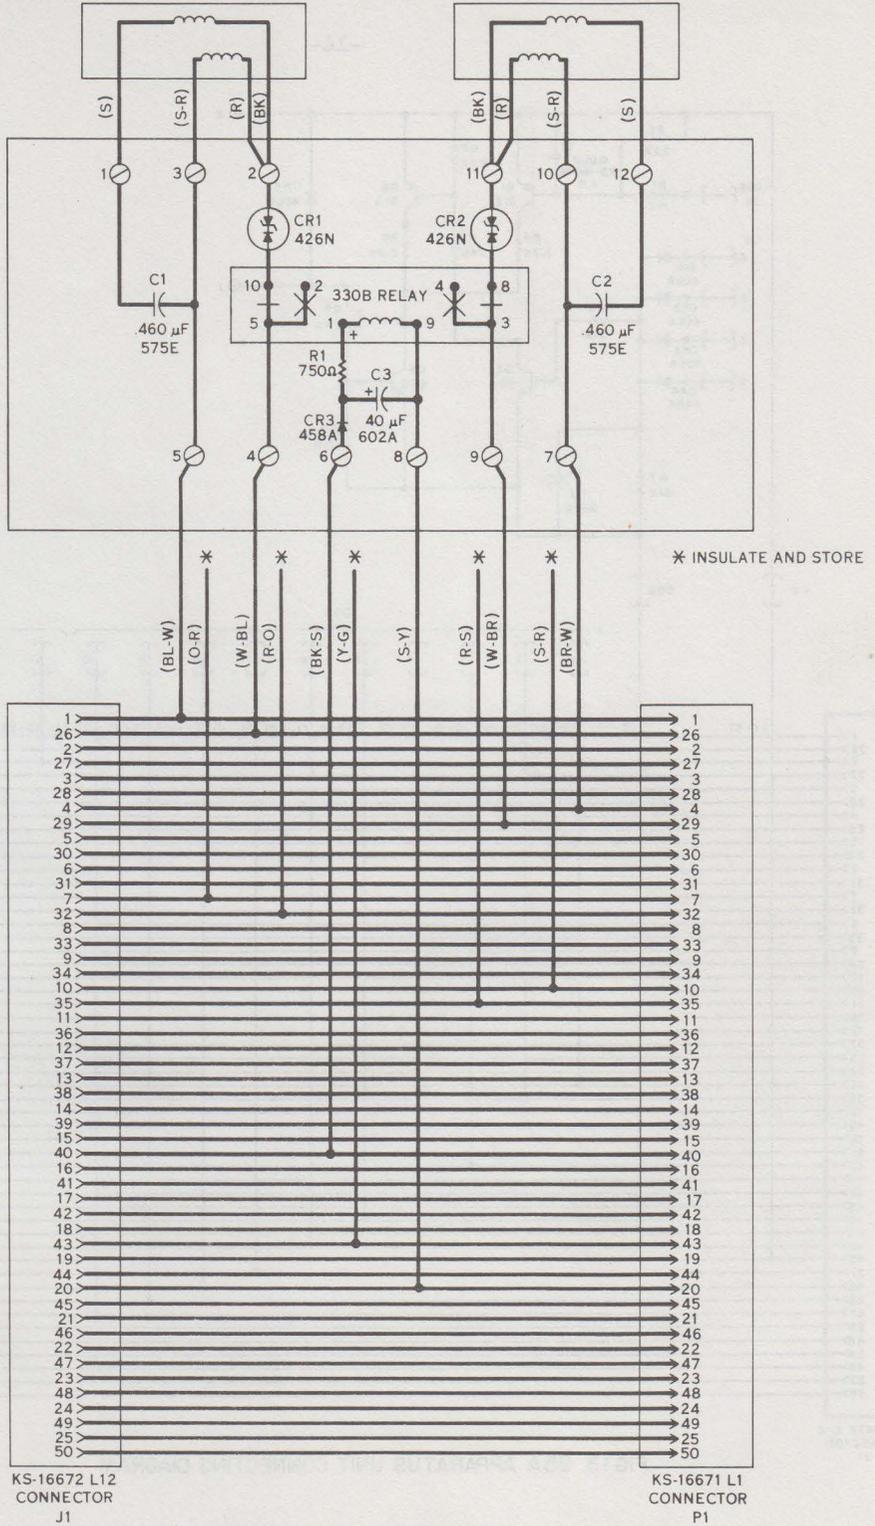

FIG. 12. 24A APPARATUS CONNECTING DIAGRAM
- 4.01 The 24A is factory-wired (Figure 12) to provide power failure ringer service for CO/PBX lines 1 and 2. To connect the unit to lines 3 and 4, see Table A.